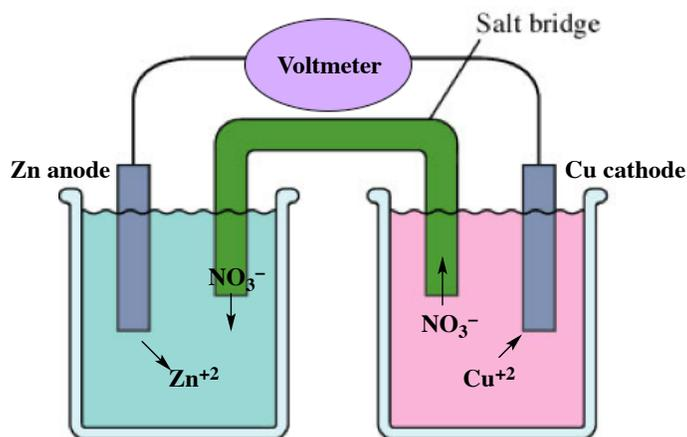

Figure 1. Functional galvanic cell based on oxidation of Zn and reduction of Cu⁺²
Any spontaneous redox reaction can be harnessed to produce electrical energy under the right conditions. The problem with simply dropping a piece of zinc metal into a solution of Cu(II) is that the electrons provided by the zinc move directly to the aqueous Cu(II) ions without doing any work. In order to create a useful battery, the two half reactions must be physically separated so that the electrons will flow through an external circuit as shown in Figure 1. A salt bridge is necessary for charge balance: in this case sulfate ions flow from the copper to the zinc compartment.
The electrochemical cell shown in Figure 1 can be represented by the following shorthand: